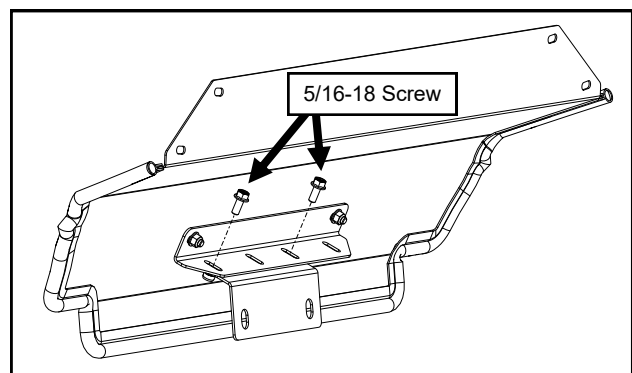

Fig. 6.1 (Lower Rear Panel to Rear Mount Bracket)
6.1 Have an assistant, while kneeling in the tractor seat, locate the lower rear panel between the fenders and aligning the front of it with the fender cross brace. Push down from the top, compressing the sealing bulb on the lower rear panel and the foam weather seal previously installed to the vehicle. Align slots in brackets and fasten using the provided hardware. See Figure 6.1.